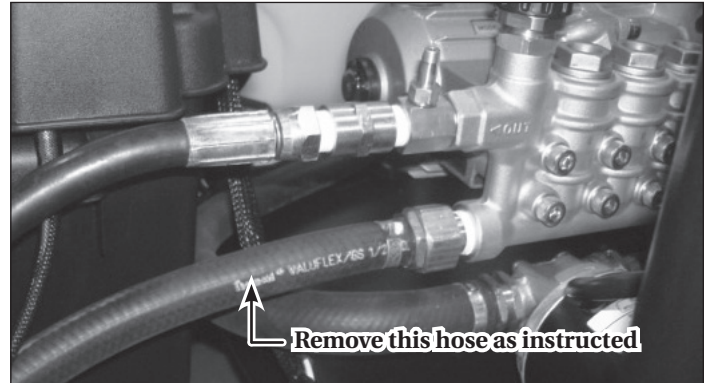

Figure 16
10. Remove hose as shown in Figure 16. Attach a short hose and place into RV 50/50 antifreeze.